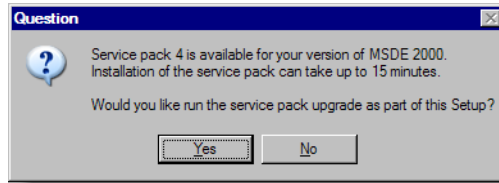

Figure 2-7. MSDE Service Pack 4 Message
13. If you chose to use MSDE in Step 11 and Setup detects that MSDE 2000 service pack 3 or earlier is running on your workstation, it displays a message asking if you would like to upgrade to service pack 4 (see Figure 2-7). While this upgrade